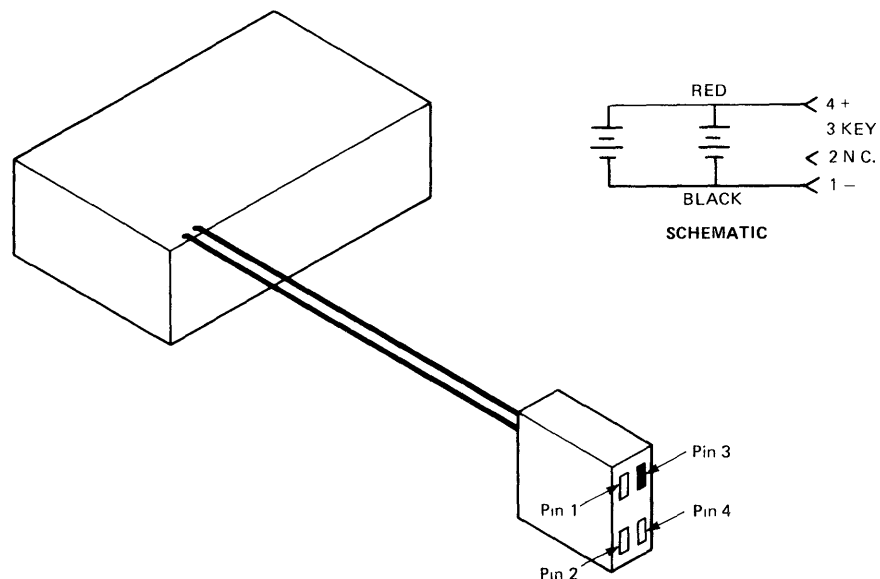

Figure 5-3. Logic PWB Battery Details
- a. Install a new battery (TI part number 999880-0001), using a cable strap or RTV adhesive, and reconnect the connector at J9. Figure 5-3 illustrates the PWB battery details.